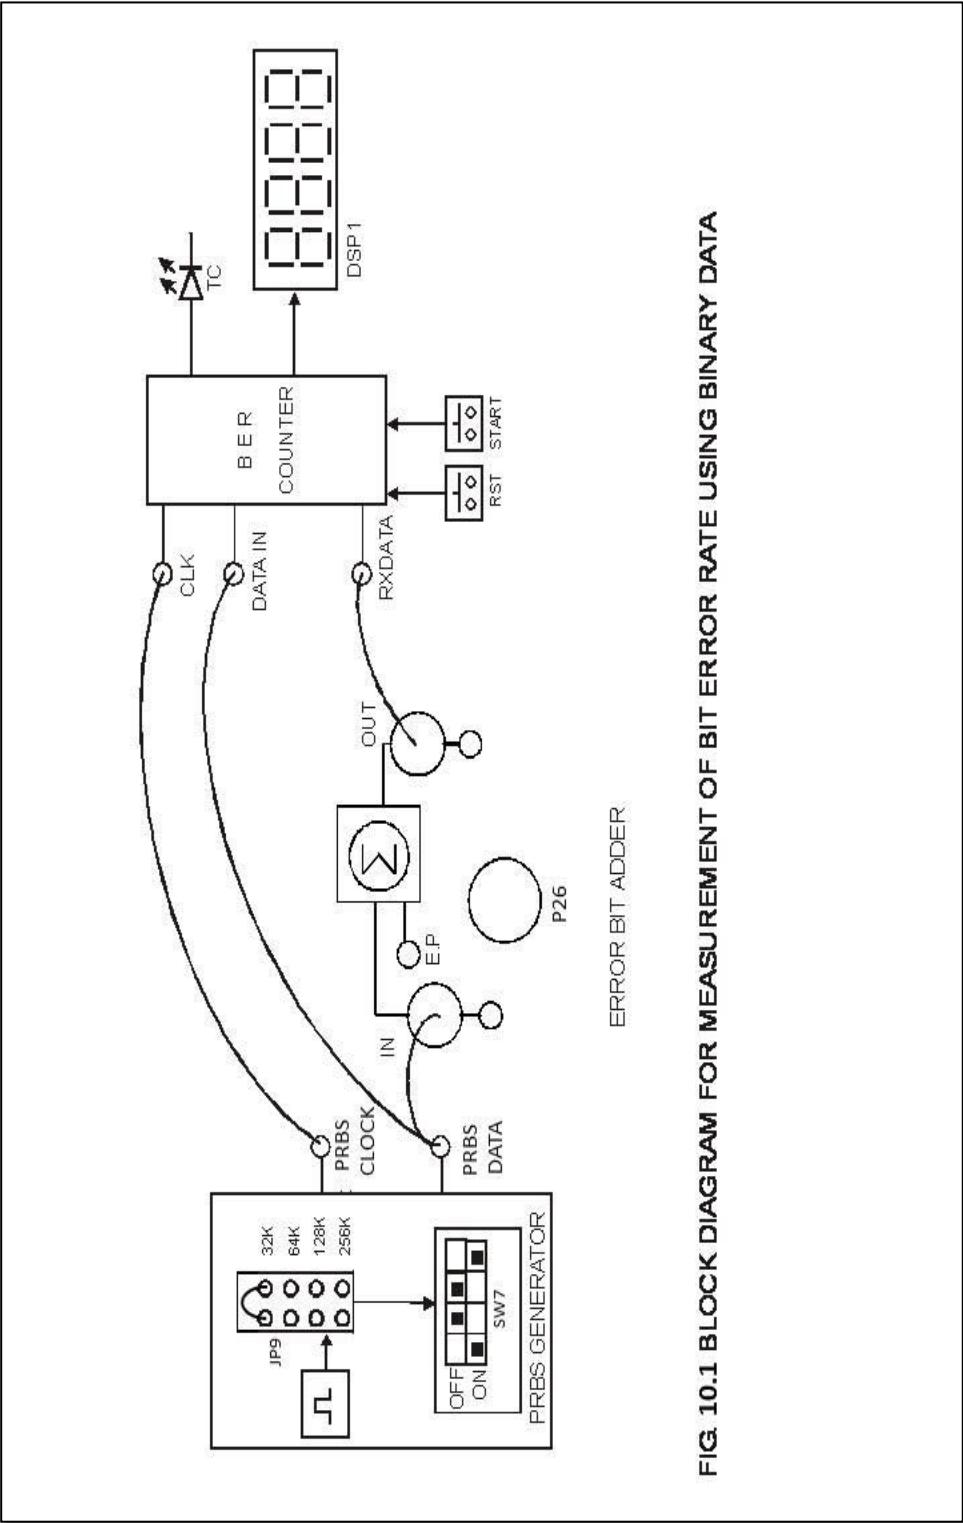

FIG 10.1 BLOCK DIAGRAM FOR MEASUREMENT OF BIT ERROR RATE USING BINARY DATA
- Refer to the block diagram (Fig.10.1) and carry out the following connections and switch settings.